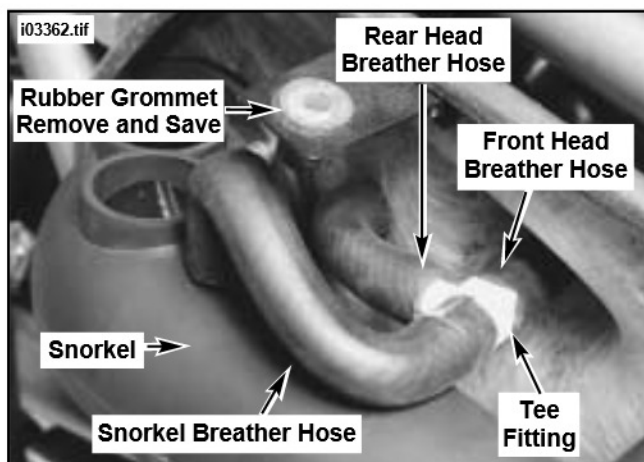

Figure 2. Remove Breather Hoses
3. See Figure 2. Perform the following:
4. See Figure 2. Remove rubber grommet from upper airbox mounting bracket. Save grommet for installation.
25. Obtain rubber grommet saved in step 4 and install to upper bracket on backplate. Refer to Figure 2 for orientation.